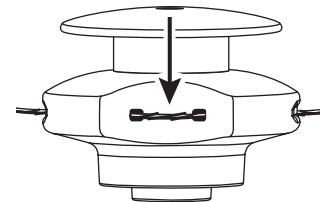

Fig. 21
5. Push the trimmer line until it lies flat against the cutting head (Fig. 21). Make sure the two lengths of cutting line are of equal length. If they are not, adjust until they are.